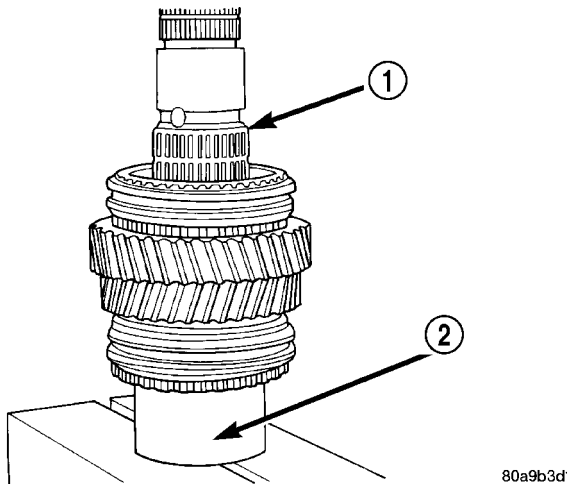

Fig. 69 SECOND GEAR BEARING
(21) Install second gear needle bearing on shaft (Fig. 69).